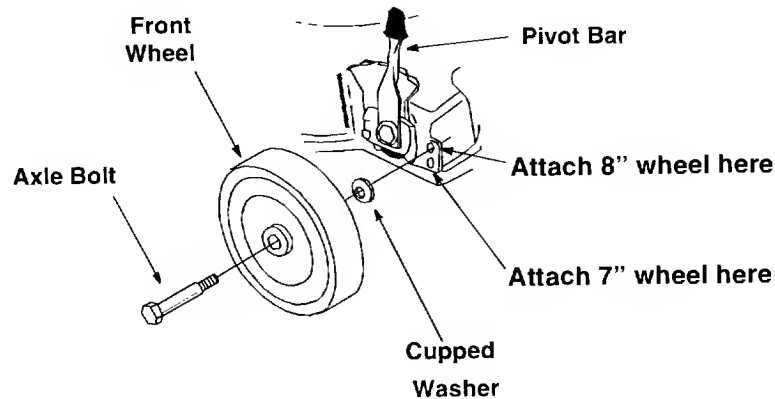

FIGURE 4
- Insert front axle bolt through front wheel. Place cupped washer on axle bolt (crowned side against the wheel). Insert axle bolt into pivot bar, using the hole shown in Figure 4. Tighten securely.